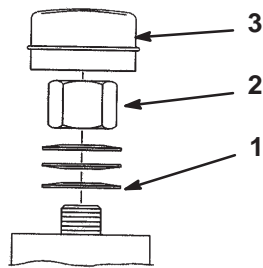

Figure 63
3. Remove the dust cap from the caster and tighten the locknut (Fig. 63).
4. Tighten until the spring washers are flat and then back off 1/4 turn to properly set the preload on the bearings (Fig. 63).
Important Make sure that the spring washers are installed correctly as shown in Figure 63.